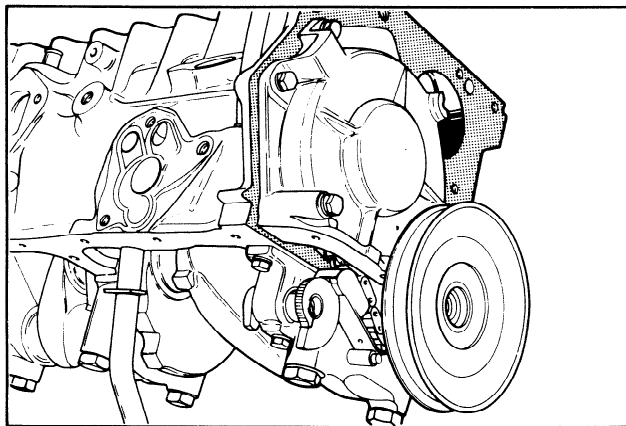

FIG. 35 Aligning Front Cover and Seal
5. Position the gasket, portions of oil pan gasket, if necessary, and the end seal on the front cover with an oil resistant sealer at the ends. Install the front cover and align the seal by installing the crankshaft pulley (Figure 35). Tighten the attaching bolts evenly to specification.